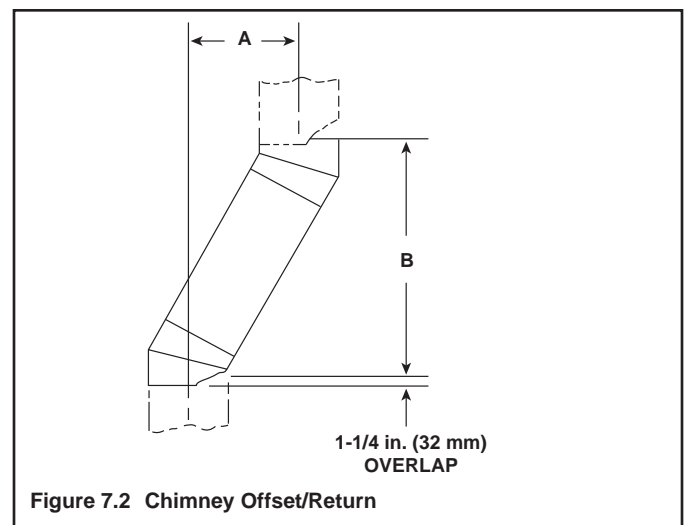

Figure 7.2 Chimney Offset/Return
- Pipe measurements are shown using the effective length of pipe (see Figure 7.2).